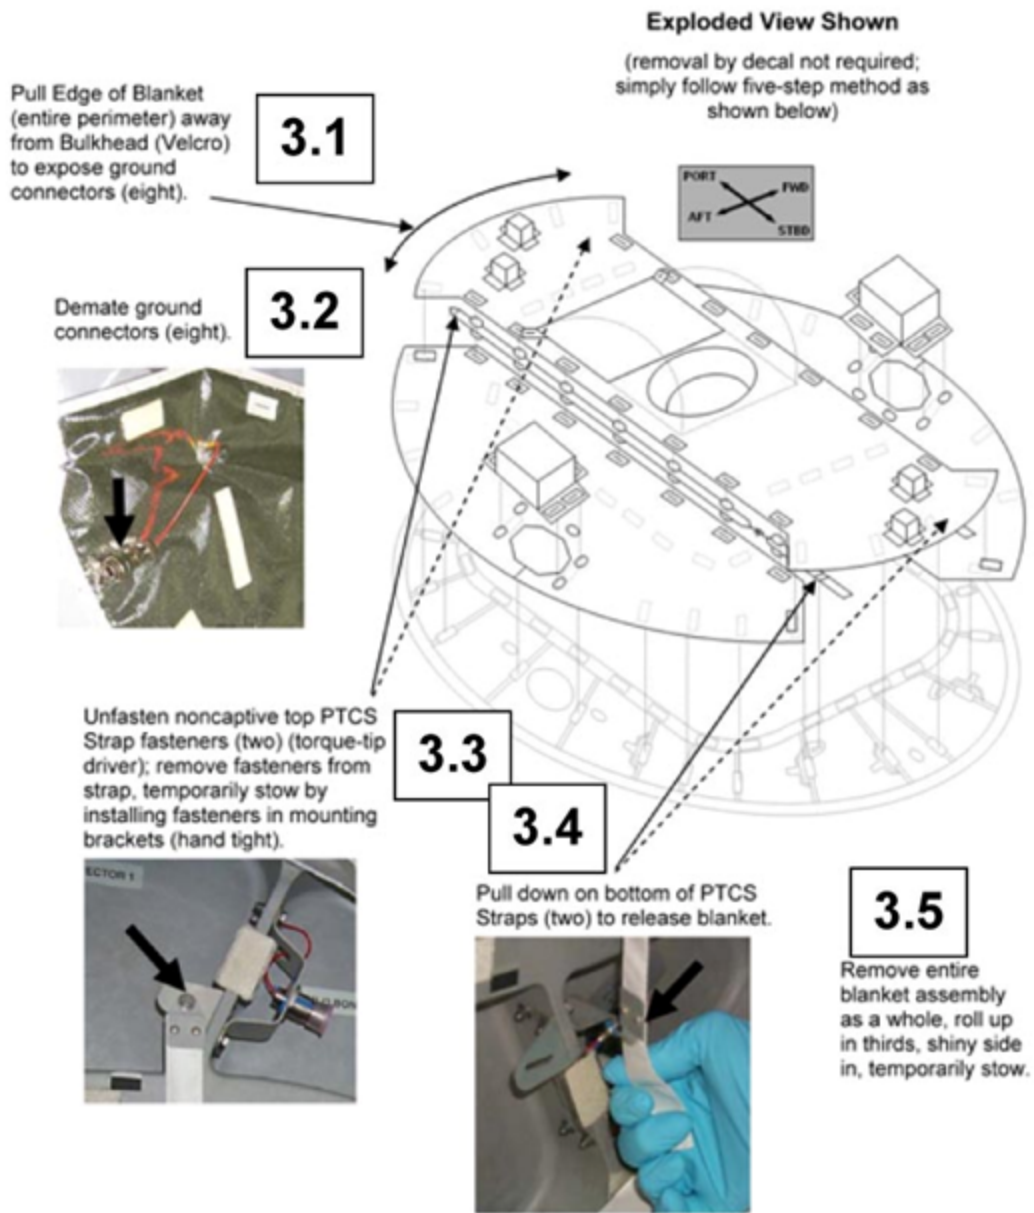

Figure 5. Simplified Method of PTCS PMM Thermal Blanket Removal.
- 3.1 Pull edge of Blanket (entire perimeter) away from Bulkhead (Velcro) to expose ground connectors (eight). Refer to Figure 5.
- 3.2 Demate ground connectors by hand (eight). Refer to Figure 5.
- 3.3 Unfasten top PTCS Strap noncaptive Fasteners (two) (#6 Long Torq Driver, 3/8" Drive; 1/4" to 3/8" Adapter; Ratchet, 1/4" Drive). Temporarily stow by installing Fasteners in mounting brackets (hand tight). Refer to Figure 5.
- 3.4 Pull down on bottom of PTCS Straps (two) to release Blanket. Refer to Figure 5.